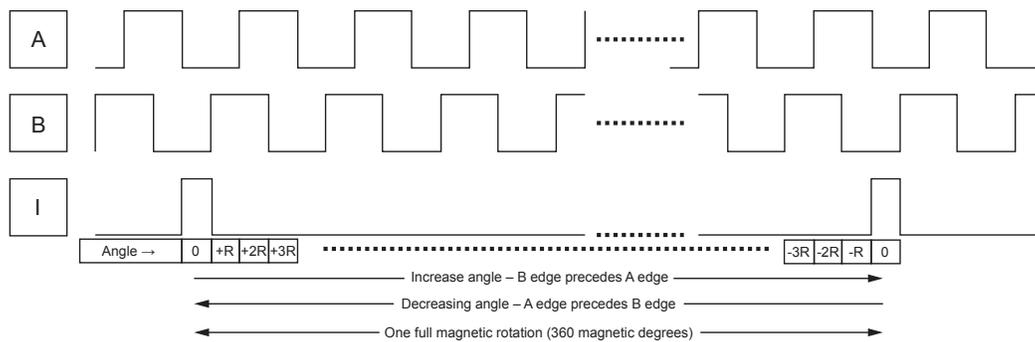

Figure 8: One Full Magnetic Revolution
The A33023 offers an incremental output mode in the form of quadrature A/B and Index outputs to emulate an optical or mechanical encoder. The A and B signals toggle with a 50% duty cycle (relative to angular distance, not necessarily time) at a frequency of 2^N cycles per magnetic revolution, giving a cycle resolution of $(360 / 2^N)$ degrees per cycle. B is offset from A by $1/4$ of the cycle period. The “I” signal is an index pulse that occurs once per revolution to mark the zero (0) angle position. One revolution is shown in Figure 8.